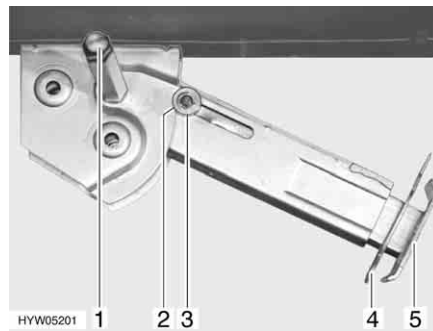

Fig. 35 Steady leg
- Place the socket spanner on the hexagon nut (Fig. 35,1) and rotate until the steady leg is in a perpendicular downward position.
- Remove the splint (Fig. 35,4) out of the support foot extension (Fig. 35,5).
- Place the socket spanner on the hexagon nut (Fig. 35,1) and rotate until the steady leg is clear of the ground.
- Push in the support foot extension (Fig. 35,5) and insert the splint (Fig. 35,4) in the drilled hole in the support foot extension.
- Rotate the hexagonal nut (Fig. 35,1) with the socket spanner until the steady leg has swung upwards and the guide disc (Fig. 35,3) has completely retracted into the notch (Fig. 35,2).